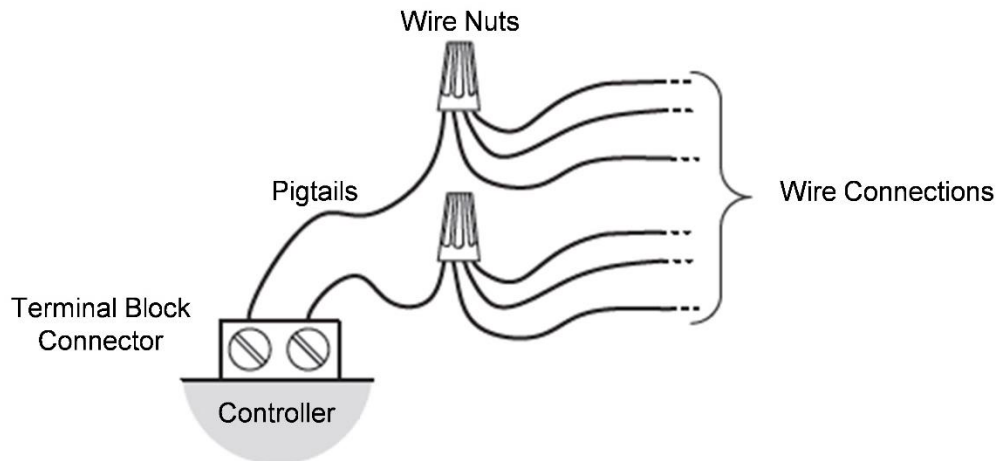

Figure 13: Controller's Terminal Block Connection
- For any other wiring combinations, including mixed wire thickness, mixed wire type, or more than two wires, refer to the terminal block connection in Figure 13.